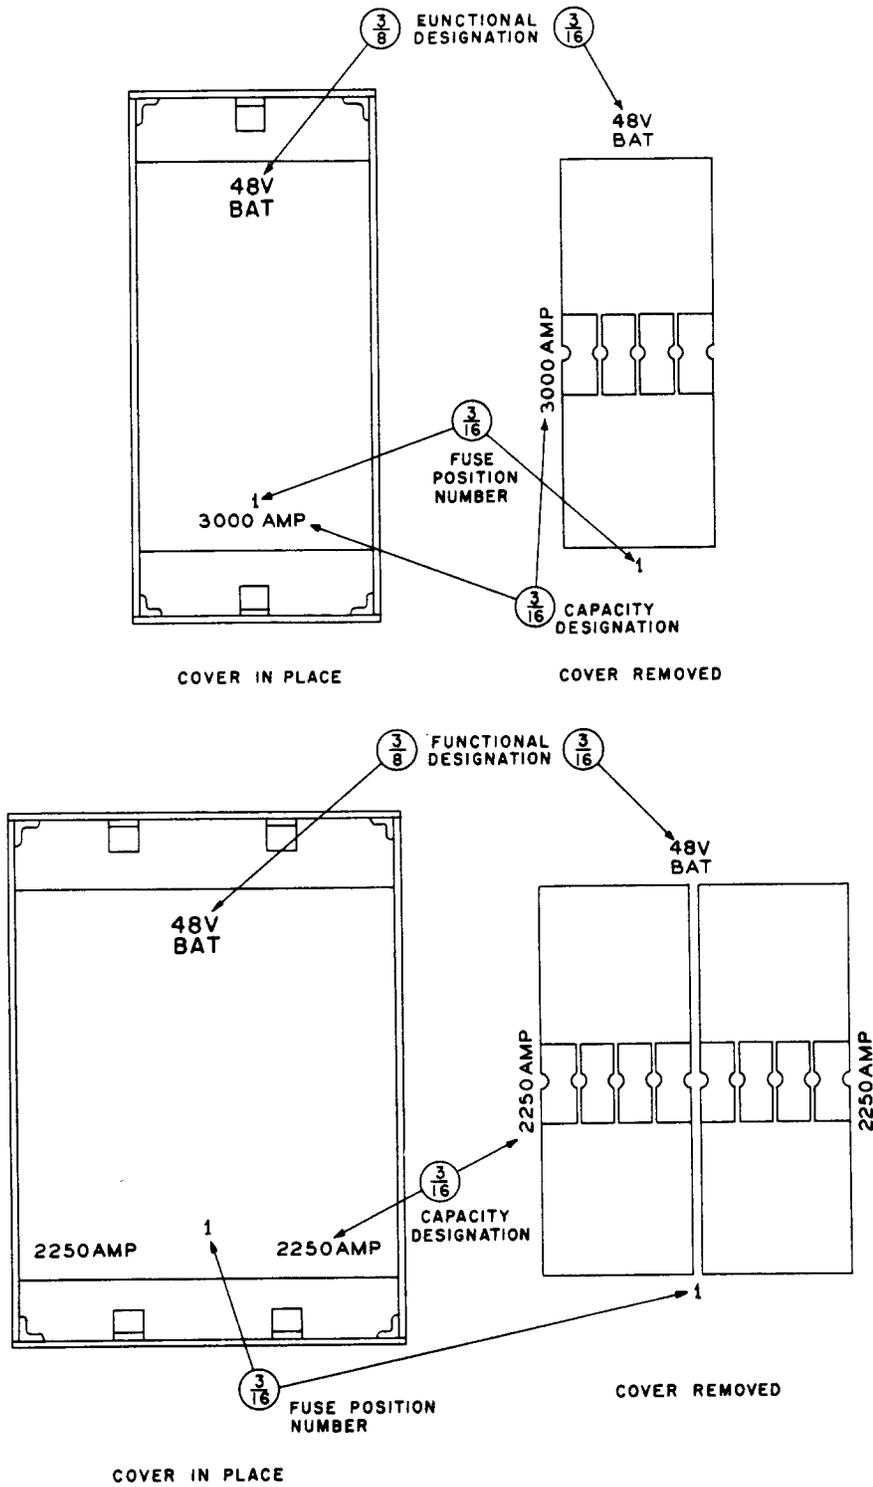

Fig. 22 - Open-Link Fuse and Enclosure
2.33 For link fuses, refer to Fig. 22 and panel assembly Fig. 50. The capacity of each fuse shall be stamped parallel to the fuse, and if a cover is provided, on the cover in a horizontal position. When a single cover is placed over two link fuses, the fuse size shall be stamped on the cover over each fuse.